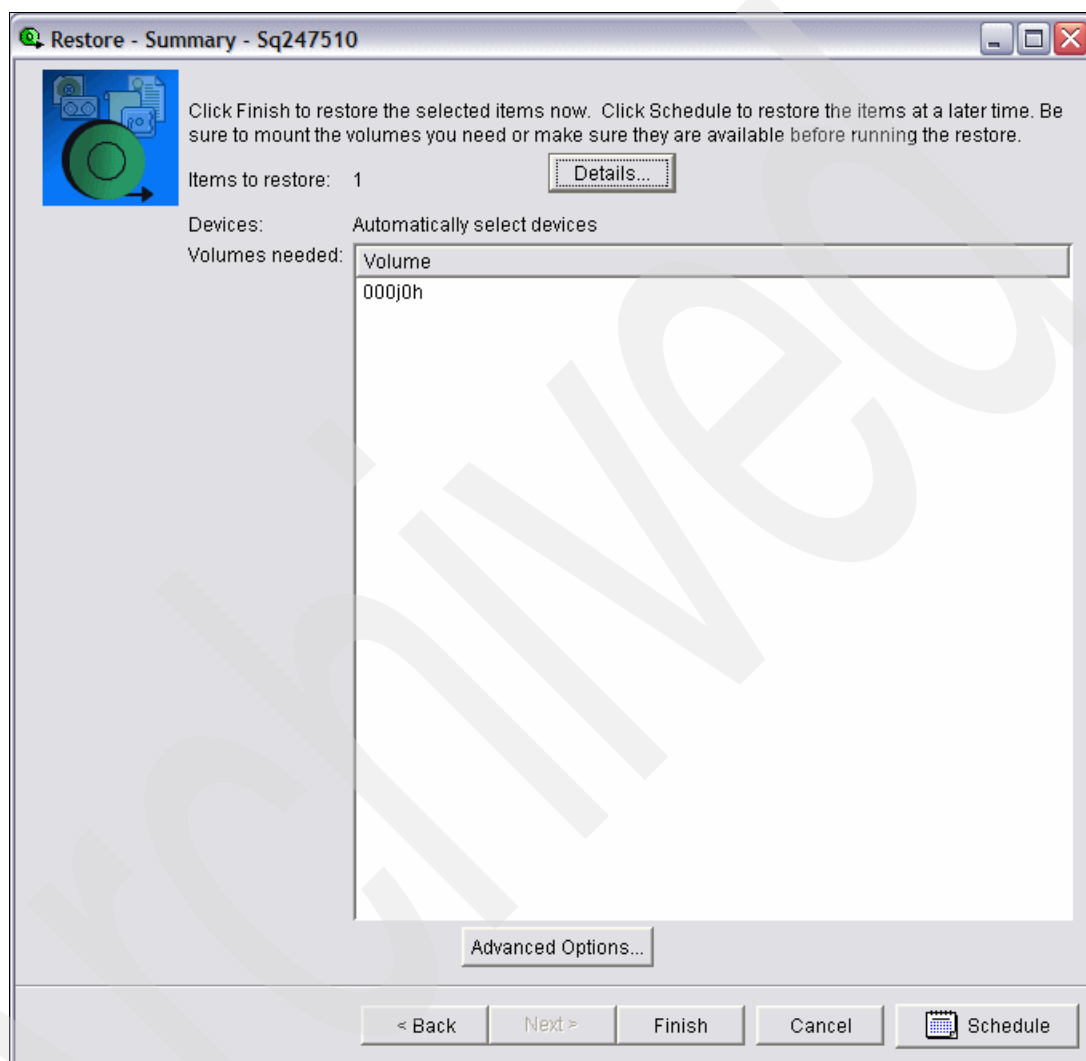
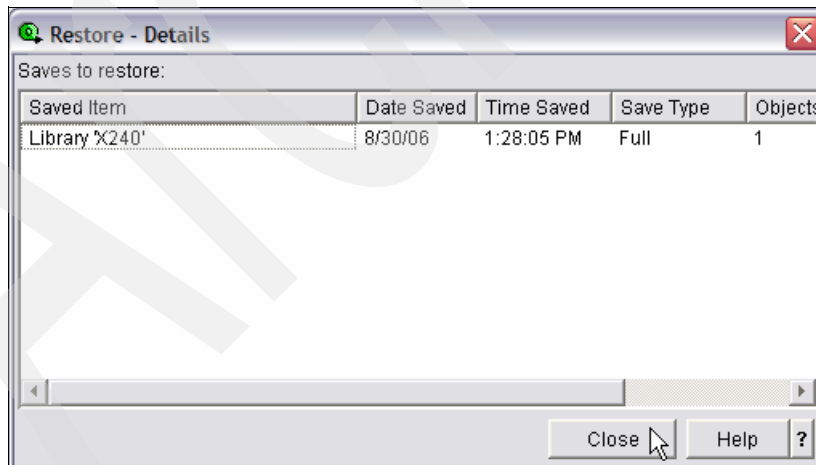

Figure 6-104 Summary - Automatically selected device
Figure 6-106 Restore - Details
10. The volume containing our backup is presented in Figure 6-104.
For our example, we explore altering restore options, click **Advanced Options**, as shown in Figure 6-104.
11. The Advanced options window has other functions as well. Note the Allow object differences (for restore) options to select from. Use the online help functions to consider selecting these options. Click **OK** or **Cancel** to return to the Restore summary window (Figure 6-104 on page 220).
12. Back in the Restore summary window, click the **Details** button to get the Details window shown in Figure 6-106. In our simple example, you see the single saved library X240. Click **Close** to return to the Summary window (Figure 6-104 on page 220). We are set to go.